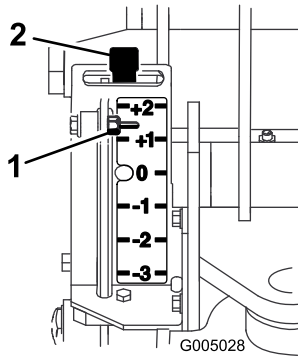
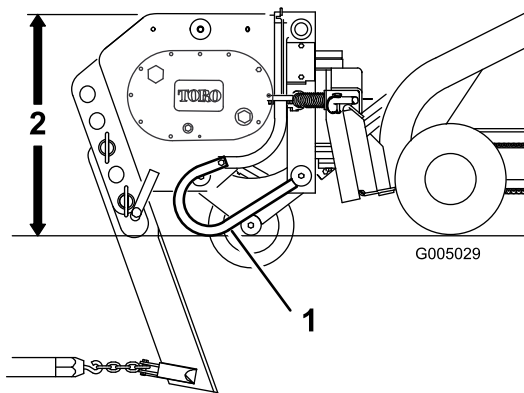

Figure 7
Figure 8
- Tilt the attachment plate completely back so that the top of the plow is parallel to the ground (Figure 8).
to the ground (Figure 8). When you lift the plow, the indicator on the gauge moves down. Marks on the gauge show the number of inches lower or higher than the maximum depth that you are plowing (Figure 7). The gauge reads from +2 to -3. The +2 on the gauge represents a 5.0 cm (2 inch) depth below the bare surface and the -3 on the gauge represents a 7.6 cm (3 inch) above the bare surface. The 0 on the gauge indicates that no offset is applied to the blade depth.